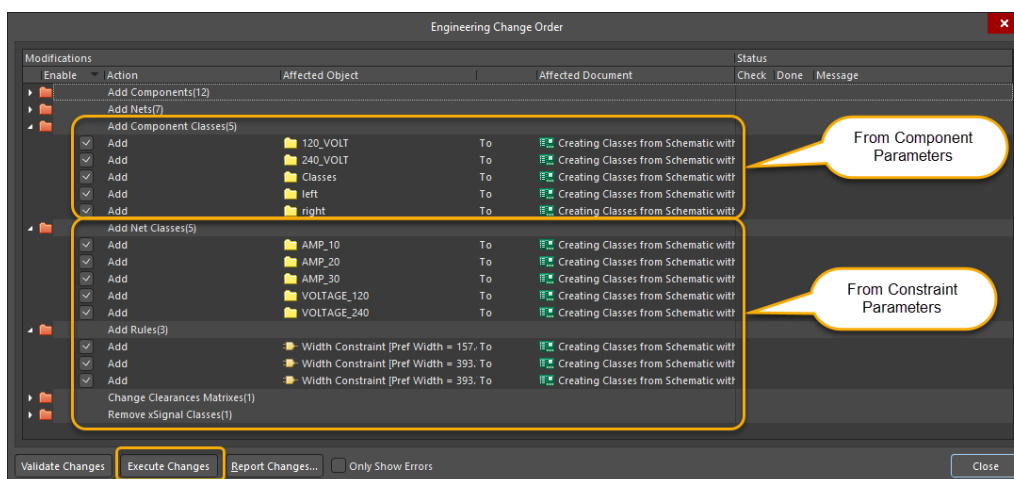

Figure 18. Engineering Change Order
61. When the *Engineering Change Order* dialog appears, Figure 18, examine the items that will be added to the PCB. Note that the component classes are added for the components with the user parameter `ClassName`. Select the **Execute Changes** button to update the PCB document, then select **Close**.